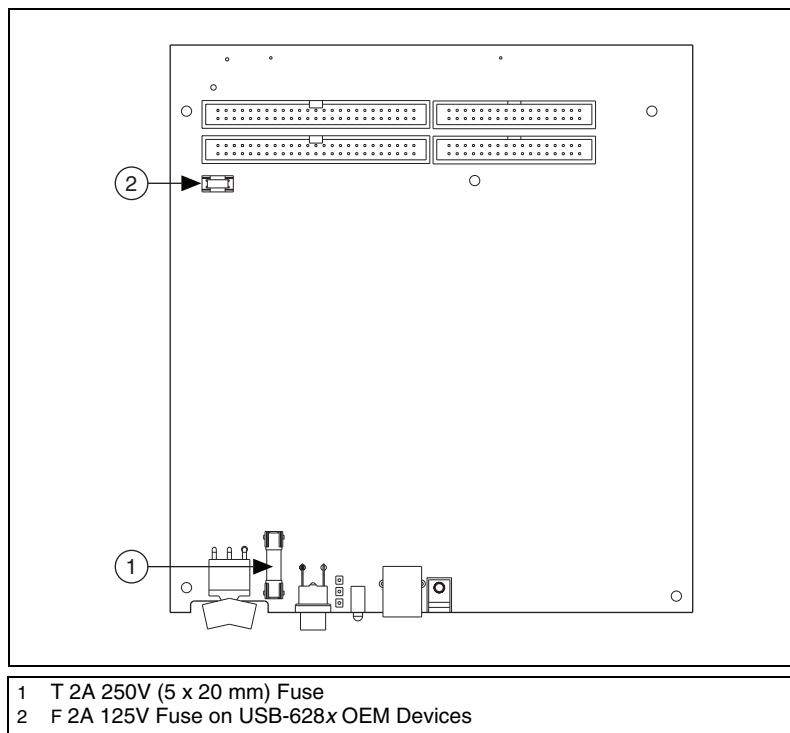

Figure 13. USB-622x/625x/628x OEM Fuse Locations
2. Replace the broken fuse while referring to Figure 13 for the fuse locations.